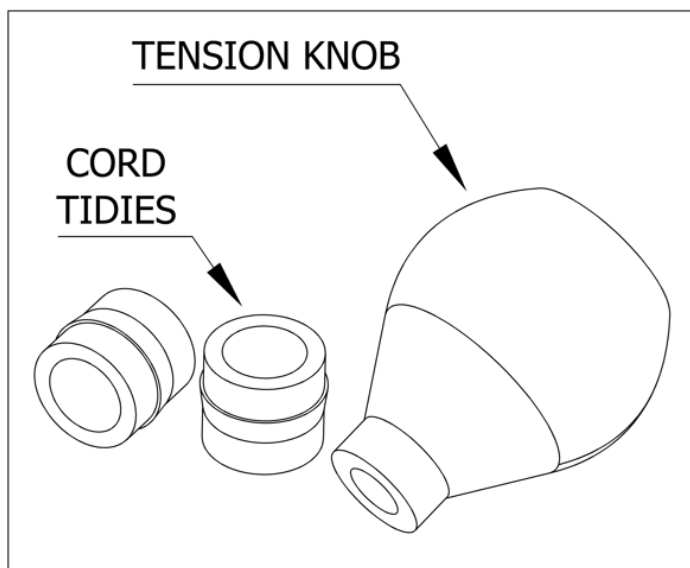

Fig 1. Cord Tidies and Tension knob.
- Retain the plastic parts. If you lose any, please contact Austral Head Office to order replacements. (Fig. 1)
1. Cut off and discard the old cord. Ensure to retain the plastic parts (Cord Tidies x 2 / Tension Knob x 1) as these will be re-used. (Fig. 1)